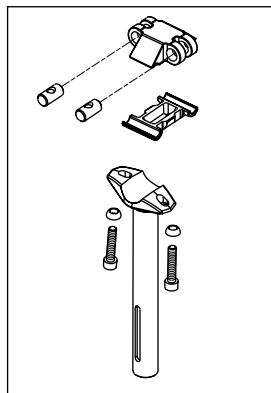

Fig. 1
2. Remove the upper clamp assembly and grease the lower clamp surface, clamp, washers, clamp screws and seat clamp pins (fig. 1).